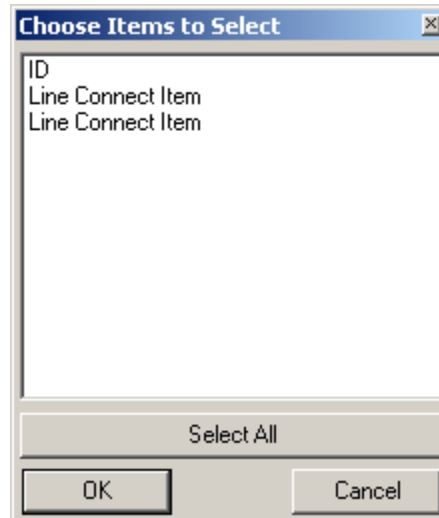

Figure 6-16 Choose Item to Select dialog
- Click on an item where it overlays another item. The Choose Items to Select dialog displays a list of connection lines and items near the location point. See Figure 6-16. Select the item or items and click **[OK]**.
- <Shift>** click on an item near where it overlays another item. The Choose Item to Select dialog displays. See Figure 6-16. Select the item or items and click **[OK]**.